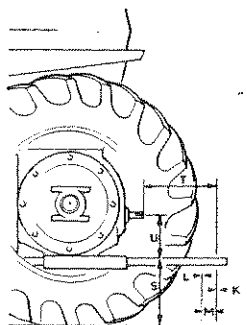

Fig. 1
2. The front drawbar hitch on the baler can be adjusted up or down or inverted 180°, see Fig. 1, to achieve proper alignment with the tractor drawbar. The distance from the bottom of the baler hitch mount to the ground should be $17" \pm 1"$. Ensure all fasteners are tightened and in their proper position.